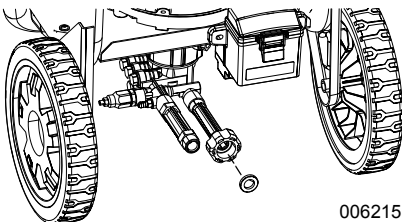

Figure 2-9. Inspect Inlet Screen
- See Figure 2-9. Inspect inlet screen for debris. Clean screen or replace as necessary. DO NOT run power washer if inlet screen is damaged or missing.